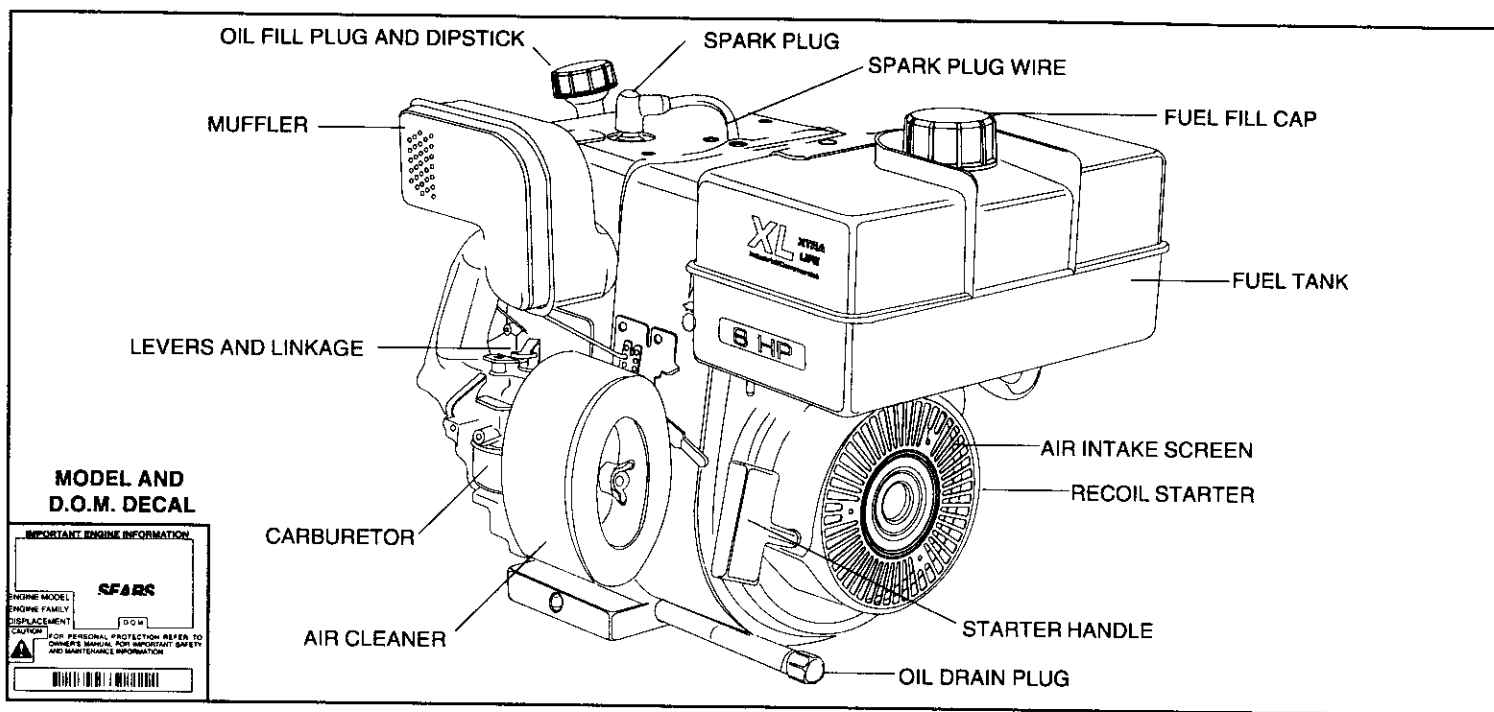

Figure 1
- ① READ ALL INSTRUCTIONS PROVIDED WITH THE EQUIPMENT ON WHICH THIS ENGINE IS USED.
- ② **CHECK OIL LEVEL:**
- B. Clean area around oil fill plug (see Figure 1).
B. Be sure spark plug wire is attached to spark plug (see Figure 1).
C. Be sure stop switch (see Figure 1) next to spark plug is not contacting spark plug.
- 2 Push stop switch (see Figure 1) located next to spark plug on engine against spark plug and hold it in this position until engine is completely stopped.
- A. Position equipment so engine oil drain plug is lowest point on engine (see Figure 1).